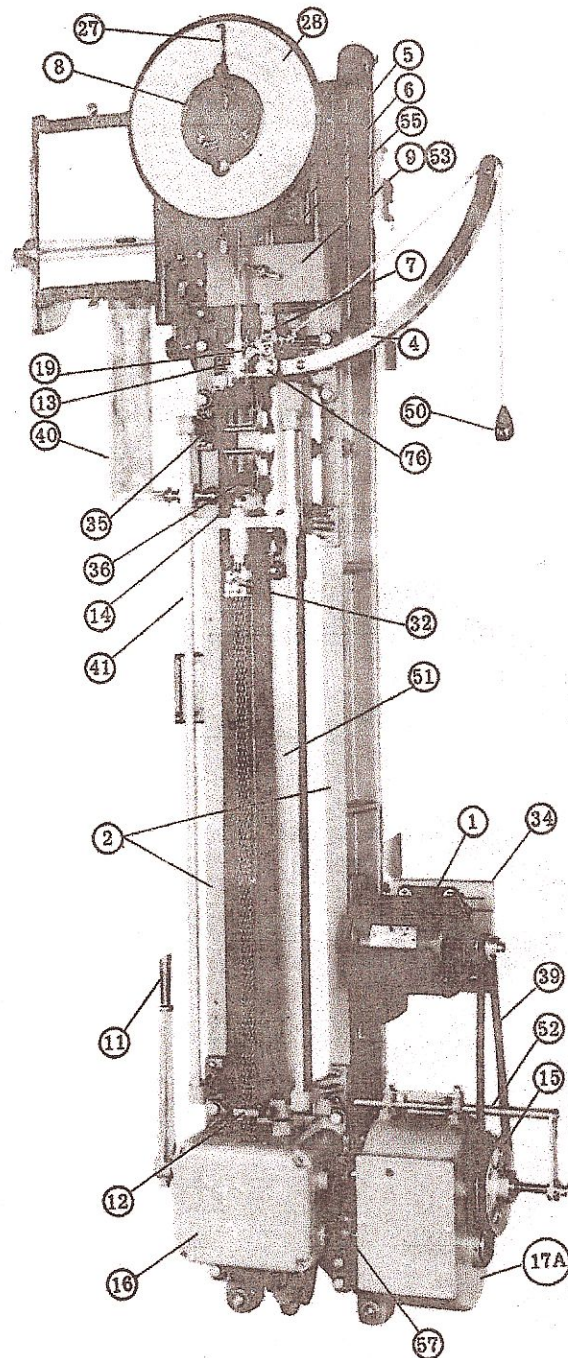

Fig. 2 - Nomenclature
Note: Numbers in parentheses after part names indicate parts shown in Figure 2.
4. Cut binding twine and remove board. All binding twine and the board between the frame and the permanent weight (9) may now be removed.
5. Install quadrant. The Tester is shipped with the quadrant (4) out of position. Remove the nickel-plated screw holding the quadrant in place, and lift the quadrant clear of the Tester. Slide the same end of the quadrant in behind the pendulum arm (5) and replace the nickel-plated screw in the same position in which it was shipped. The ratchet (inside) of the quadrant should be up. Place the second nickel-plated screw through the second mounting hole just to the right of the pendulum arm (5); apply upward pressure to the outer right-hand end of the quadrant and tighten the securing screws.
6. Track pawls. Turn the knurled pawl locking knob (7) to lift the pawls clear of the quadrant. Swing the pendulum arm (5) all the way out and back; as this is done, watch the pawls to see that they "track" properly.
7. Attach pawl re-setting cord. Attach the re-setting cord and pawl release pull (50) to the pawls (19) as shown in Figure 2.
8. Install clamp counterweight. One clamp counterweight (6) is shipped with the loose parts for each type of clamp furnished. Each of these counterweights is stamped with the letter or number designation of the clamp it is designed to counterbalance. Select the proper counterweight for the clamps to be used. Lead the pulley chain at the back of the head onto the right side of the pulley; hook the counterweight (6) to the pulley chain.
10. Zero the pendulum. Disengage the pawls (19) from the teeth of the quadrant (4) and keep them temporarily out of engagement by turning the pawl locking knob (7). Adjust the dial pointer (27), by hand, until it reads zero with the pendulum hanging free -- lock the pointer with the knurled knob (8) at the center of the dial. Turn the pawl locking knob (7) back so the pawls will again engage the teeth of the quadrant.